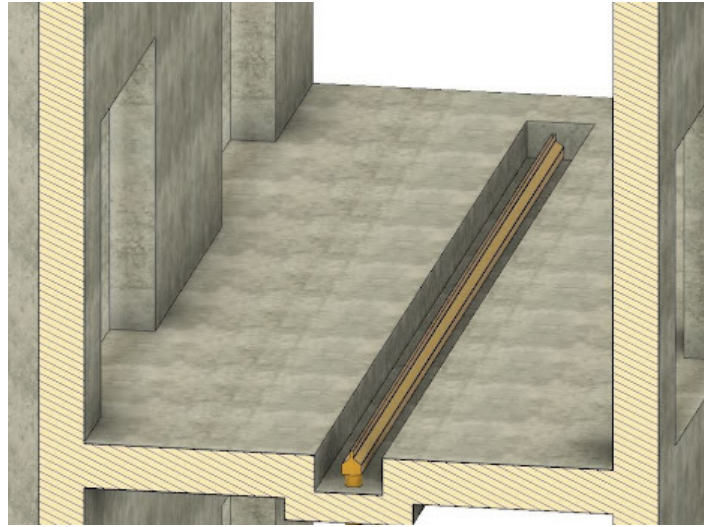

Figure 3: Install drain into cast void
4. Install the drain within the void and anchor to the adjacent concrete (Figure 3). Consider the finished floor level when installing.